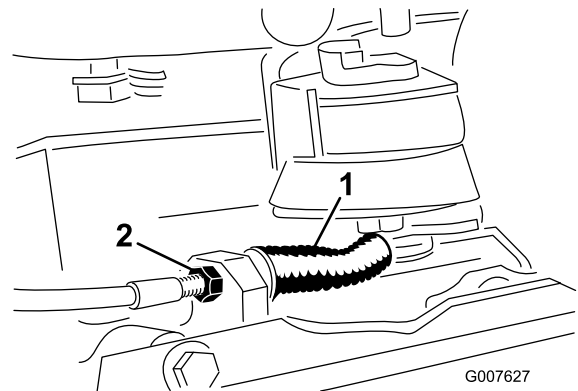

Figure 27
3. To increase the cable tension, loosen the front cable jam nut and tighten the back cable jam nut (Figure 27) until a force of 5 to 7 lb is required to engage the brake. Measure the force at the lever knob. Do not over-adjust it so that the brake band drags.